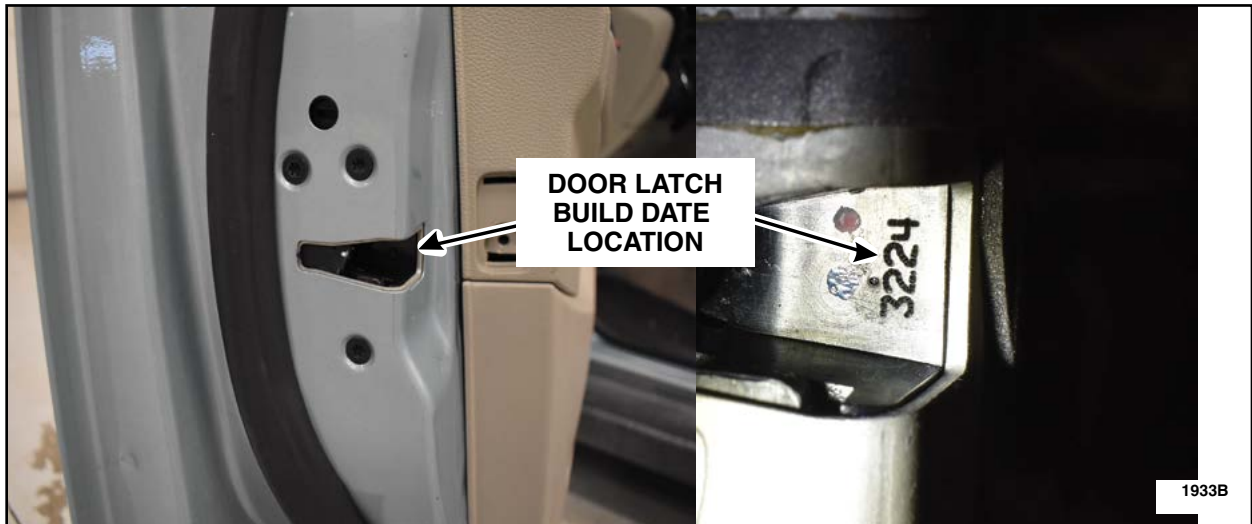

FIGURE 17
12. Once the **new** latches have been installed in the vehicle, record both date codes of the **new** latches. Additionally, capture a picture of the date code of each new door latch (two pictures total) showing them installed in the vehicle. These pictures will need to be submitted on the SSSC web questionnaire. See Figure 17.